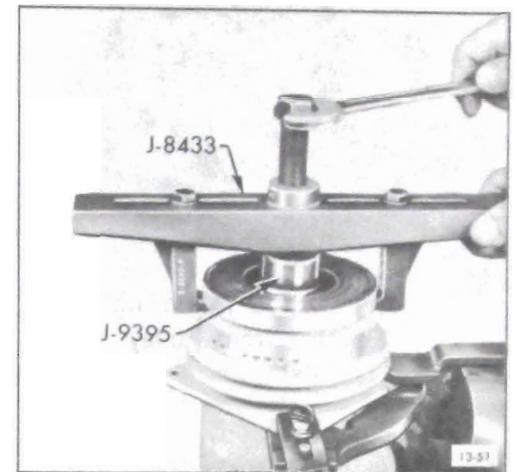

Figure 13-77 Removing Pulley Assembly
3. Place puller pilot (J-9395) on hub of front head and take off pulley assembly (see Figure 13-77), using pulley puller (J-8433).